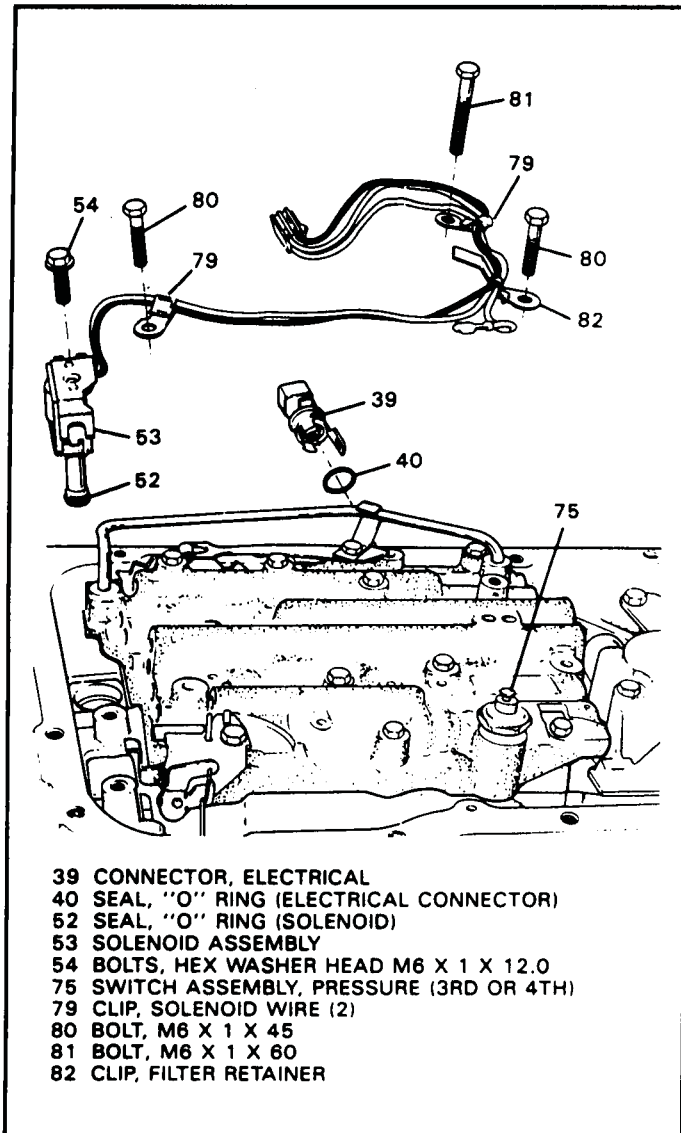

Figure 35
23. Remove electrical connections from the case connector and the 4th clutch switch, as shown in Figure 35.
24. Remove the valve body bolts and wire harness retaining clips as shown in Figure 35.
25. Remove the lock-up solenoid retaining bolts, and remove the solenoid and wiring harness assembly, as shown in Figure 35.
26. Remove the electrical case connector, discard the "O" ring seal as shown in Figure 35.